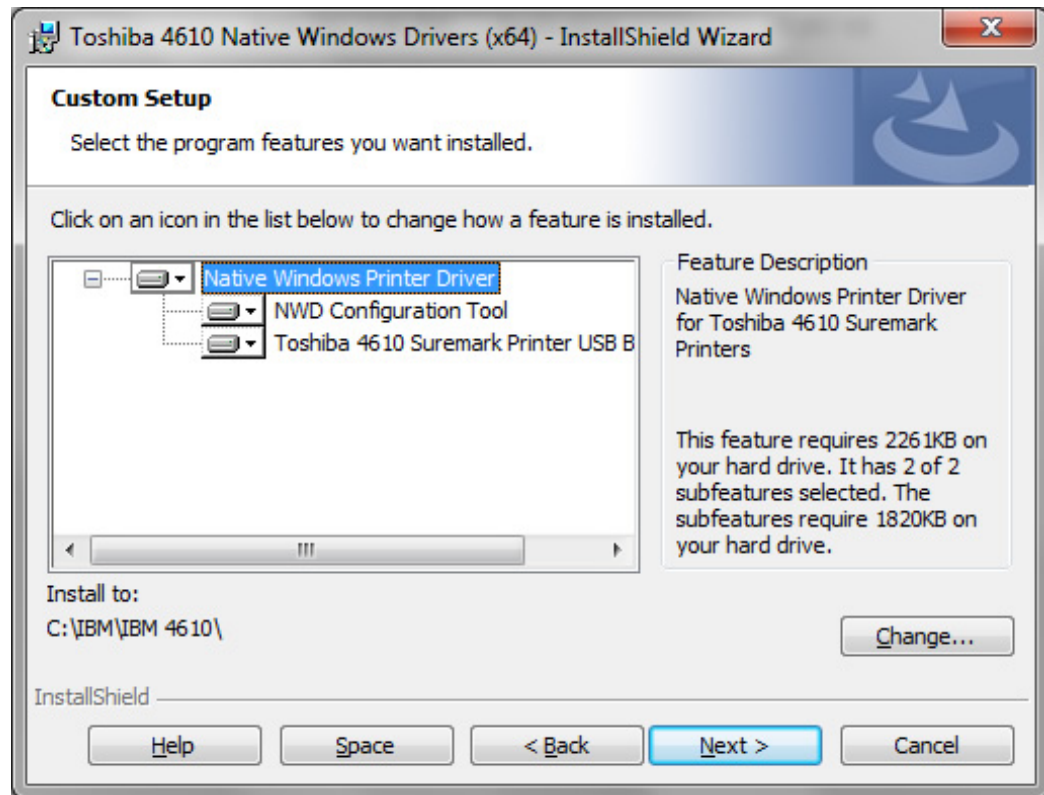
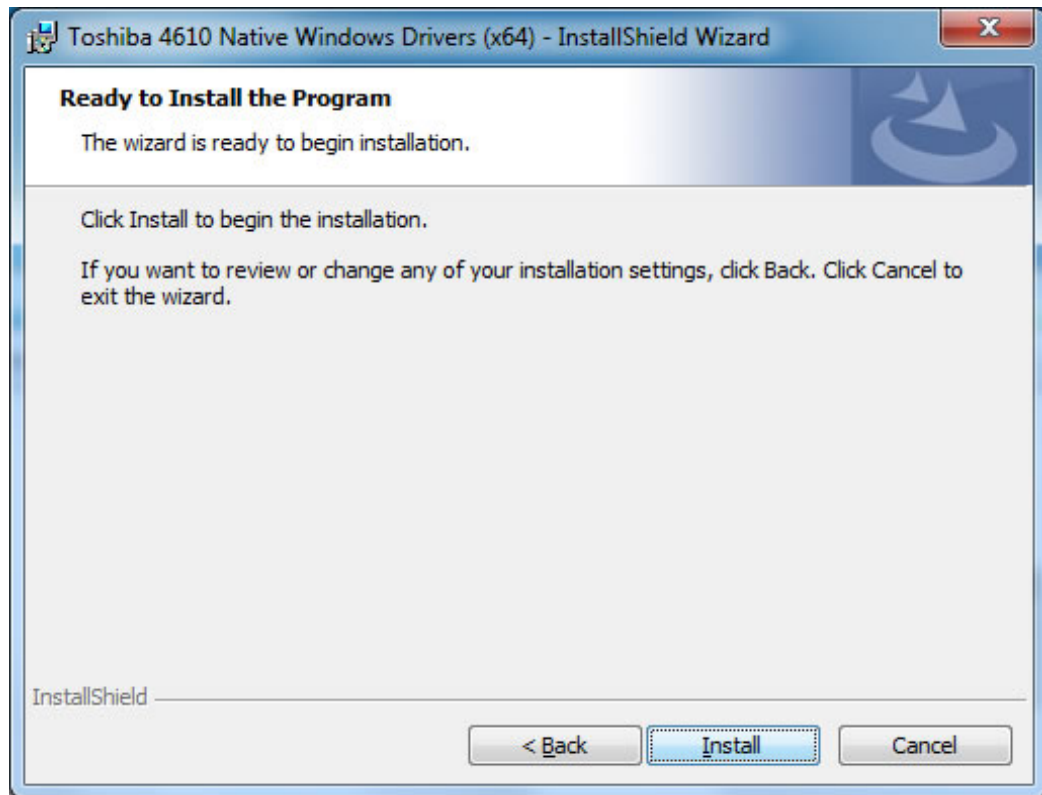

Figure 18. Custom Setup window
Figure 19. Ready to Install the Program window
- a. In the Custom Setup window (Figure 18), select those features that you wish to install on the host and click **Next**. The Ready to Install the Program window Figure 19 opens.